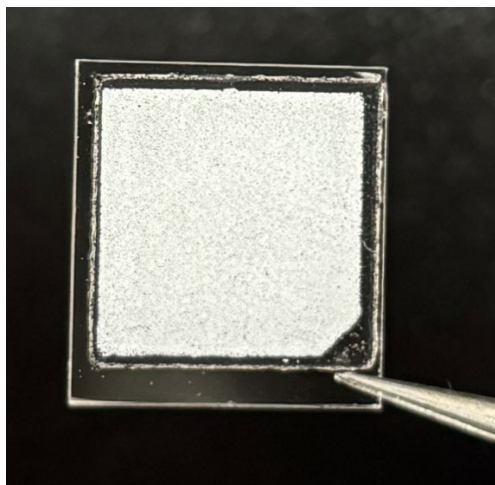

Figure 5. Correct tweezer placement when transferring the Trekker tile. Grip near the chamfered corner. Take care to avoid direct contact with the beads.
6. After the 7.5 min incubation, carefully pick the tile up with tweezers by the corner of the tile, without touching the beads (Figure 5 in Section IV.B, "General Precautions"), and place the tile in Chamber 1 containing cold 1X PBS. Wait 5 sec.